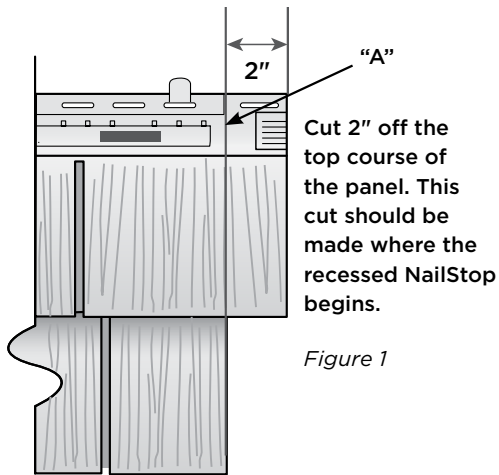

Figure 1
1. Cut 2" off the top course of the panel (*Figure 1*).